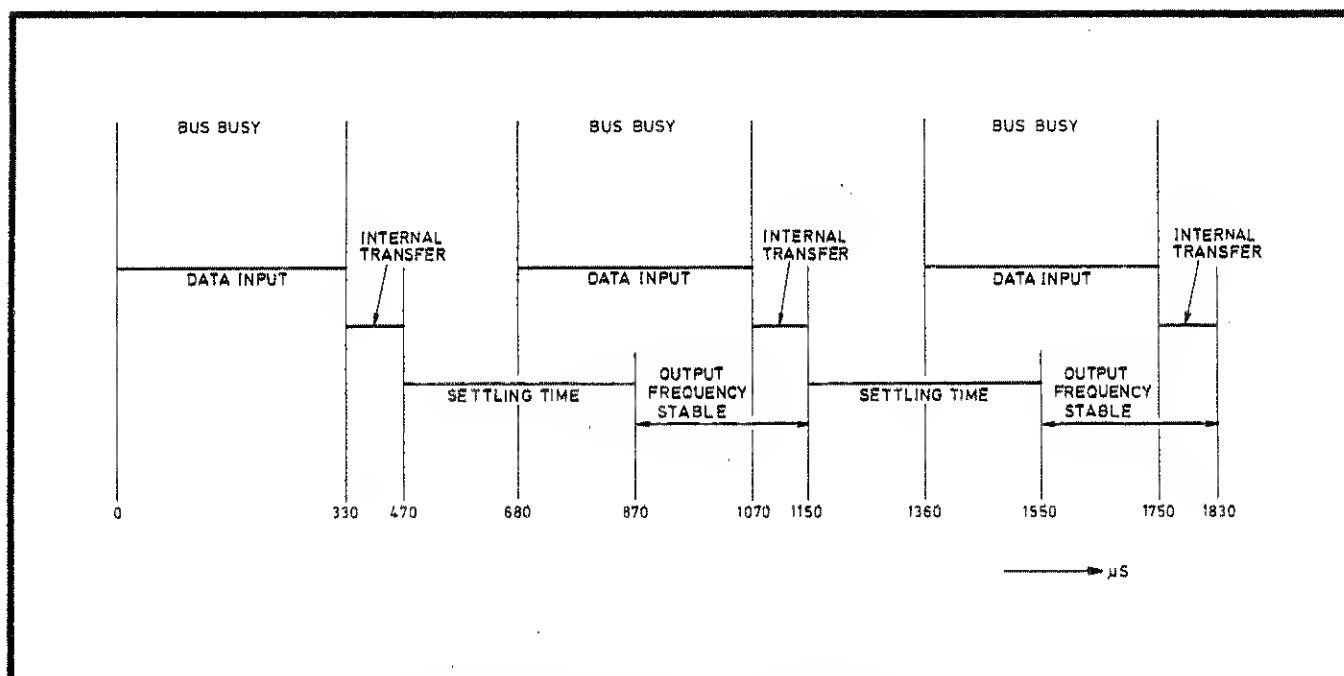

Fig. 5.2 Fast Learn Mode Timing
5.11.3.2 Since the processing time is 680  $\mu$ s, the receipt of a second string may commence before settling is complete. Operation at the maximum rate is illustrated in Fig. 5.2.